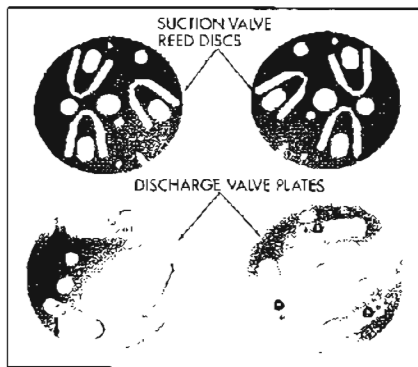

Figure 11-30—Compressor Suction Valve Reed Discs and Discharge Valve Plates
1. Suction Valve Reed Discs and Discharge Valve Plates—The two suction valve reed discs and two discharge valve plates (see Figure 11-30) operate in a similar but opposite manner. The discs are composed of three reeds and function to open when the pistons are on the intake portion of their stroke (downstroke), and close on the compression stroke. The reeds allow low pressure gas to enter the cylinder heads. The discharge valve plates also have